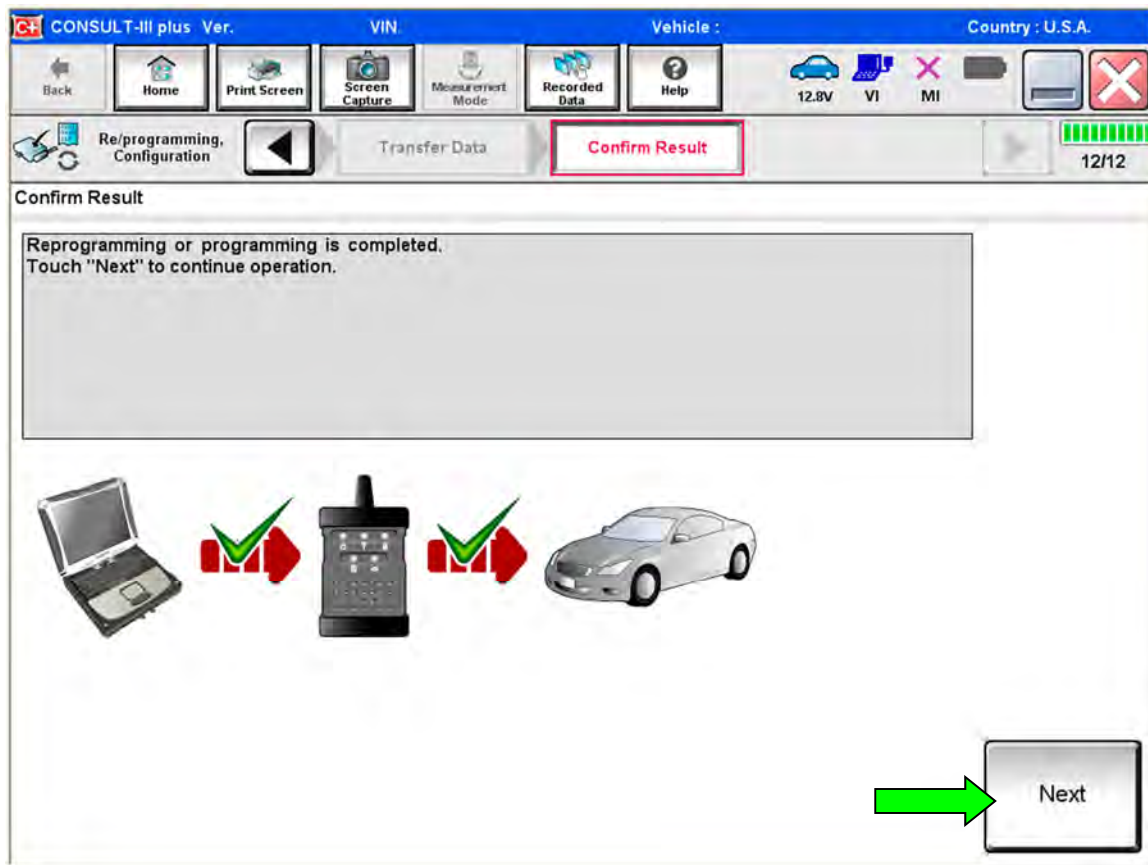

Figure 36
32. When the screen in Figure 36 displays, reprogramming is complete.
**NOTE:** If the screen in Figure 36 does not display (indicating that reprogramming did not complete), refer to the information on the next page.